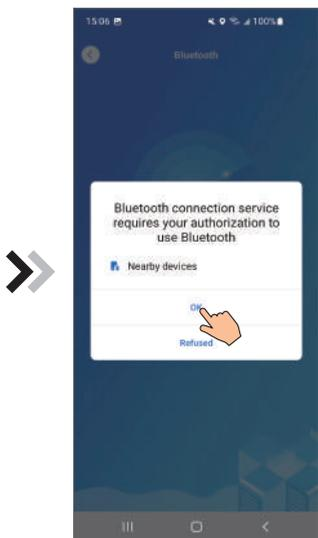

Fig.24 Enable bluetooth permission
4. Click "OK" to enable bluetooth permission (Fig. 24);